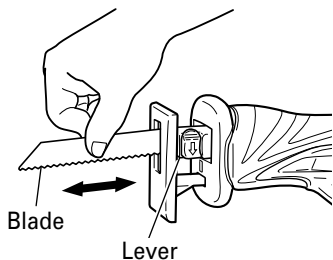

Fig. 10
- (5) Pull the back of the saw blade two or three times by hand and check that the blade is securely mounted. When pulling the blade, you will know it is properly mounted if it clicks and the lever moves slightly. (Fig. 10)